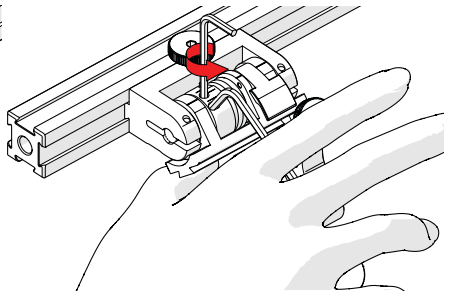

Fig. 42 - Press 3 mm hex wrench down
5. Lightly press the long leg of the 3 mm hex wrench down. Using the 2 mm hex wrench, loosen the force adjustment screw but do not remove it (Fig. 42).